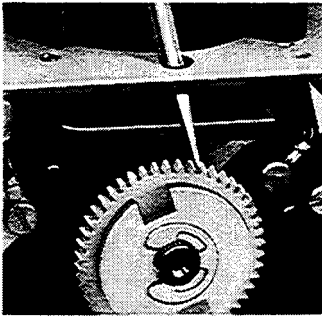

Figure-14
**Auxiliary Switch Adjustment:** The adjustable built-in SPDT switch is actuated by the cam nearest the back of the actuator. It is factory set to operate at the clockwise end but may be changed by inserting a screwdriver through the opening in the top plate directly behind the terminal block, and engaging the screwdriver with a gear-like plastic disc (Figure-14). Turning the disc clockwise (as seen from the front of the actuator) causes the switch to operate nearer the counterclockwise end of shaft rotation. Each click of the cam represents an approximate 3° change in operating point. Auxiliary switch electrical rating is shown on the Switch Performance Chart.